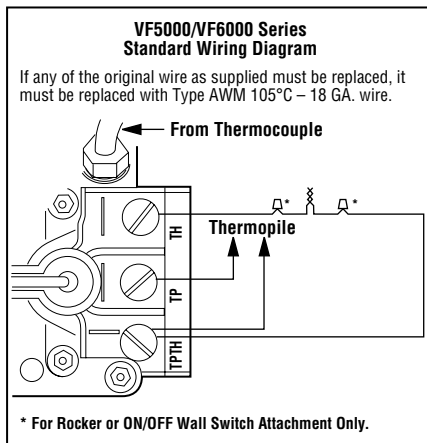
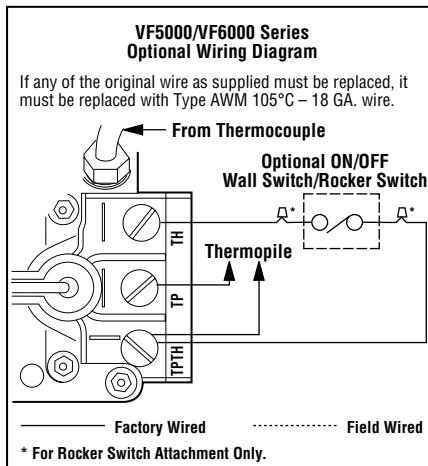

Figure 13
Figure 14
Step 6. Installing the Optional Remote Wall Switch – The standard millivolt system comes from the factory wired as shown in *Figure 13*. Select a convenient location for the remote wall switch and connect the wiring to the appliance (*Figure 14*).
An optional wall switch kit can be installed along with all vent-free appliances. The kit consists of a standard UL wall switch with cover plate. This kit provides for remote (wall) operation of the appliance. Replace the wall switch and cover plate of this kit with the components of the FWSK and you can have true remote control of your vent-free appliance, turning it on and off from your favorite easy chair. The wall switch kit should be installed along with the appliance. Refer to *Figure 14* and Step 6 for detailed installation instructions.